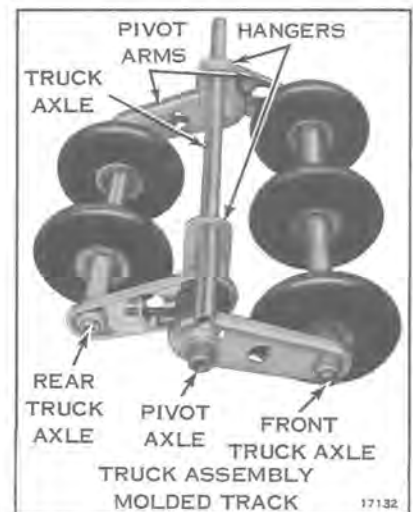

Figure 11-8
1. Assemble wheels and spacers to their original positions on the front and rear truck axles. Application of a light oil on the axles will assist in this procedure. Apply Standard Oil Rykon EP #2 grease in bore of nylon bushings and assemble to pivot axles. Molded track only, assemble hanger and truck axle assembly to pivot axle. Assemble pivot arms and springs. See Figures 11-8 and 11-9.